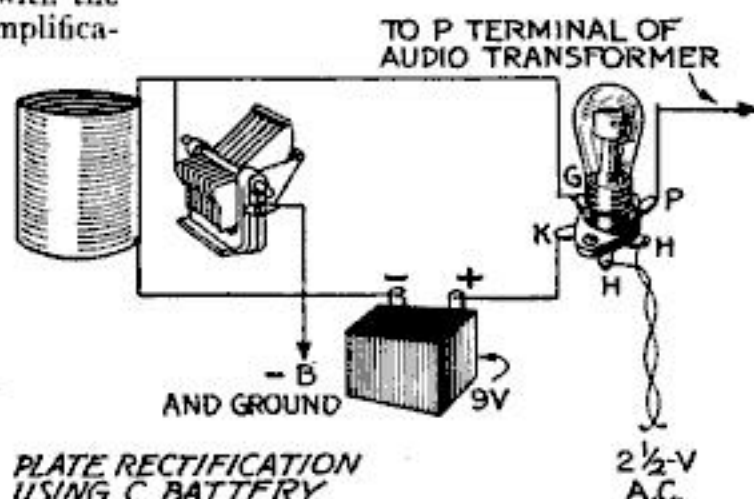

Fig. 3. The best possible way of obtaining the C bias voltage for the power detector.
Figures 3, 4, and 5 show three forms of the power detector circuit. They are identical except in the method of obtaining the necessary C bias. All of these diagrams show the use of the UY-227 A. C. heater type tube. In Figure 3 the necessary C bias is obtained from a C battery. This is the best possible method, and we recommend it to those of our readers who wish the finest results. A by-pass condenser should be connected across the leads to the C battery, unless the latter is mounted in the set.
**F**IGURE 3 also shows the correct method of operating a 201A storage battery tube in the power detector circuit. The plus terminal of the C battery is connected to the minus filament terminal of the tube socket, and minus B is, of course, connected as in the usual battery hookup—that is, either to plus A or minus A, instead of as shown in Figure 3.